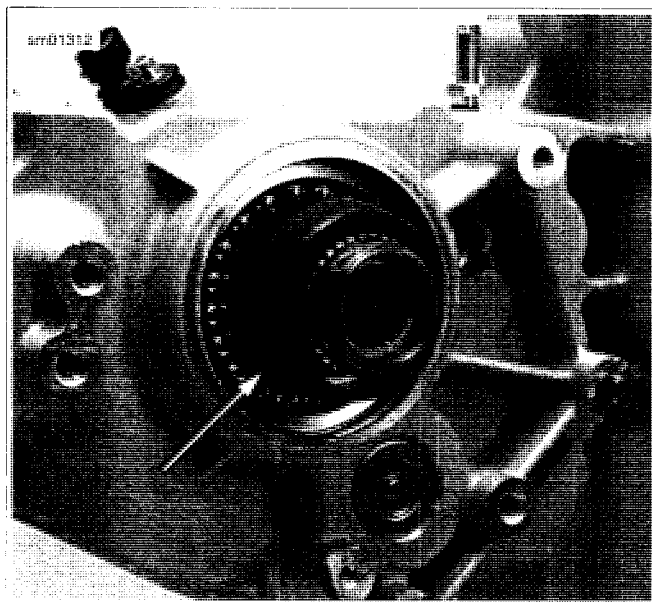

Figure 5-86. Install Pilot (typical, XL model shown)
3. See Figure 5-86. From outside of crankcase, install PILOT (Part No. HD-47856-2) over end of main drive gear bearing inner race.